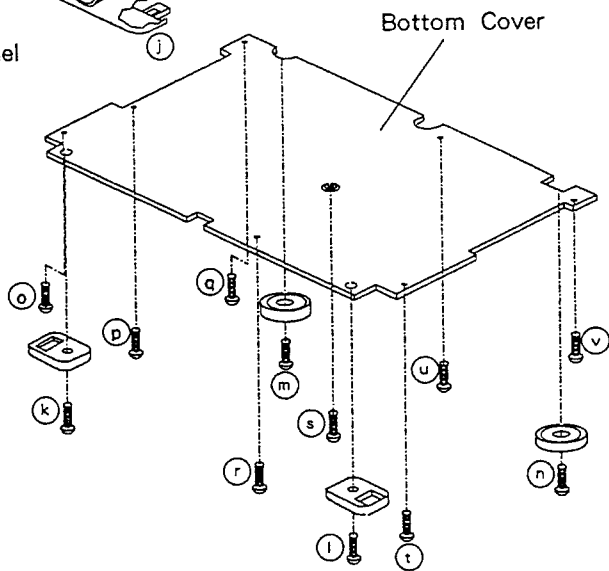

Fig. 1
- A. Remove the four screws (a~d), as shown in Fig. 1.